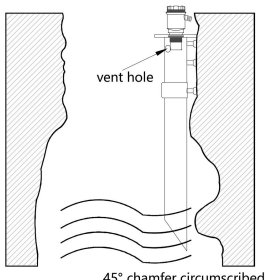

Figure 2
4) If the wall of the pool or tank is uneven, there are other obstacles, the water surface fluctuates violently, and there are foams or other impurities on the water surface, the meter needs to follow the guide pipe, or connect the pipe to the bottom of the pool or tank. Leave a gap to make the liquid level in the extension pipe equal to the liquid level in the pool or tank. On the extension pipe, install a few small holes near the probe so that the air in the pipe can communicate with the outside of the pipe! (Figure 2)